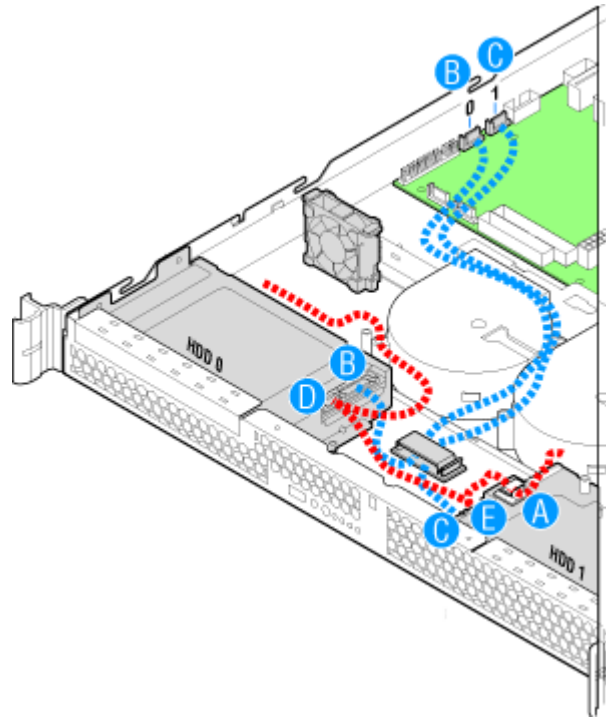

Figure 120: Connecting the Hard Drive Power and Data Cables
- HDD1 only: Route the power cable into the cable clip on the top of the hard drive bracket. See letter “A” in Figure 120.
- If a drive is installed in the HDD0 carrier, connect the HDD0 data cable to the SATA 1 connector on the server board. See letter “B” in Figure 120.
- If a drive is installed in the HDD1 carrier, connect the HDD1 data cable to the SATA 2 connector on the server board. See letter “C” in Figure 120.
- If a drive is installed in the HDD1 carrier, attach the connector on the daisy chain power cable that is closest to the power supply to the HDD1 connector. See letter “E” in Figure 120.
- If a drive is installed in the HDD0 carrier, attach the middle connector on the daisy chain power cable to the HDD0 power connector. See letter “D” in Figure 120.